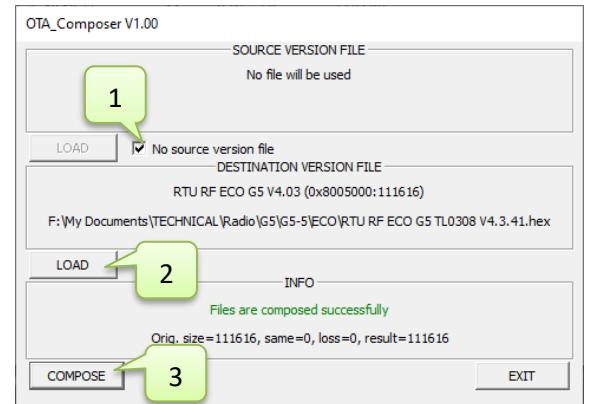

Figure 12 - Composer with no source version
- The first option is meant to be used when we are not sure about the version currently existing in the RTUs, or when not all RTUs have the same version. In these cases we have no alternative but to send the whole firmware file to replace the existing one. In this case we shall have to check the checkbox saying “NO SOURCE VERSION” (Figure 12 -1) and load only a DESTINATION VERSION (Figure 12 -2) to be processed by the COMPOSER. Push the COMPOSE (Figure 12 -3) button to prepare the file to be used by the LAUNCHER.